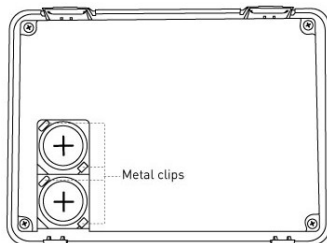

Figure 2
4. Reattach main keypad by inserting bottom portion first, folding upward and snapping into place (see *Figure 2*).
2. Place a small flathead screwdriver in the slot between the metal clip (see *Figure 2*) and the battery and twist the screwdriver slightly while holding back one of the black plastic edges holding the battery.
3. Insert the replacement battery with the + sign facing out. (see *Figure 2*)
**WARNING! The polarity of the battery must be observed, as shown (see *Figure 2*). Improper handling of lithium batteries may result in heat generation, explosion or fire, which may lead to personal injuries. Replace only with the same or equivalent type of battery as recommended by the manufacturer. (see *Specifications*)**